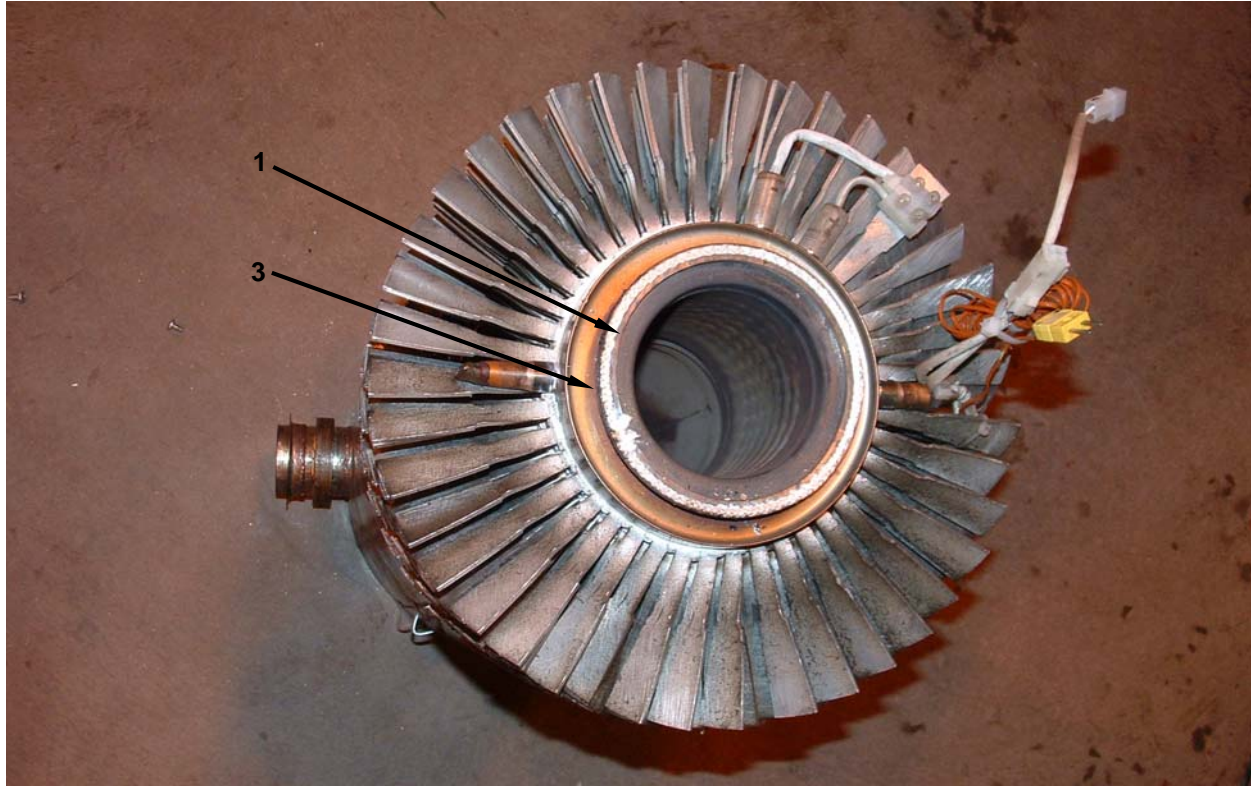

Figure 3. Inspect Thermoelectric Generator (TEG).
1. Check flanges (**Figure 3, Item 1**) for bends, breaks, and corrosion.
2. Inspect flange clamp (**Figure 3, Item 2**) for distortion as well as stripped and otherwise damaged threads. Discard clamp if not fully functional.
3. Ensure that the fiberglass ropes (**Figure 3, Item 3**) are positioned in the grooves of the TEG flange and that they are not frayed or damaged in any way.